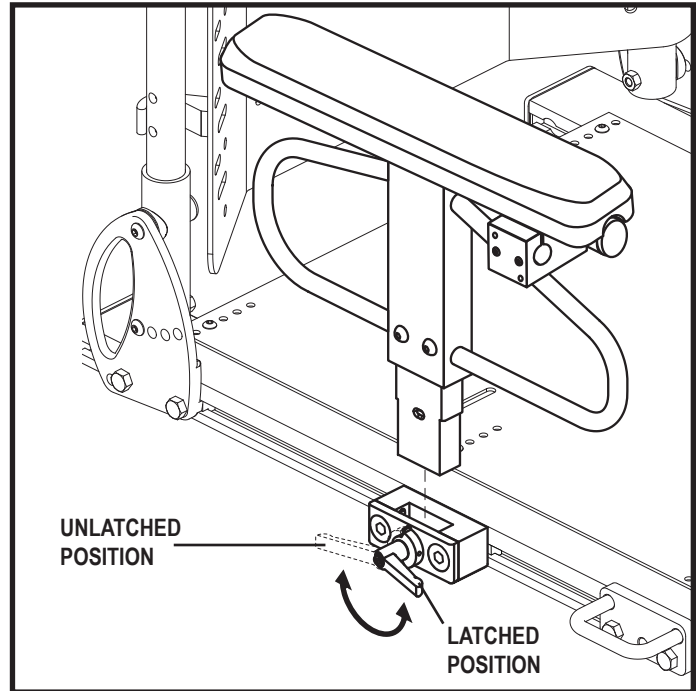

Figure 21. Heavy Duty Drop-In Armrest Removal/Installation
1. Rotate the armrest latch lever rearward. **See figure 21.**
1. Place the armrest assembly into the armrest latch. **See figure 21.**
1. Rotate the armrest latch lever rearward and remove the armrest from the armrest latch. **See figure 21.**